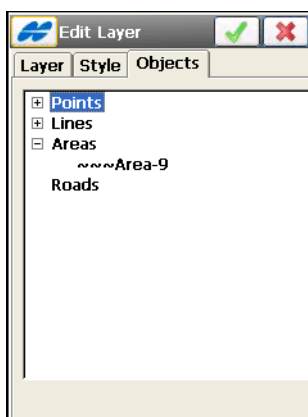

Figure 6-25. Layer Objects
8. To view objects on the existing layer, tap on the **Objects** tab (Figure 6-25 on page 6-19).